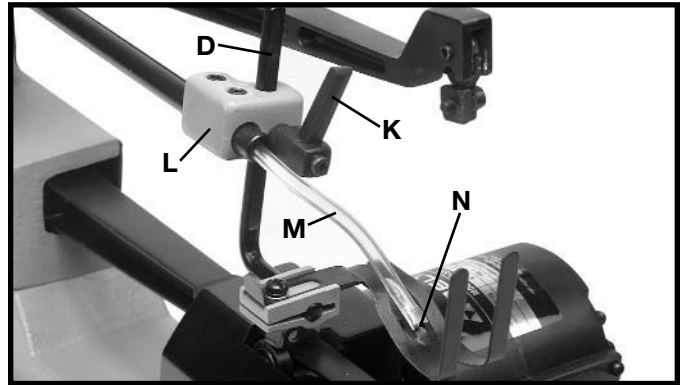

Fig. 5
2. Loosen lock handle (K) Fig. 5, and insert long end of holddown assembly (D) up through hole in bracket (L). Then tighten lock handle (K). Connect end of air hose (M) to air nozzle (N) as shown.